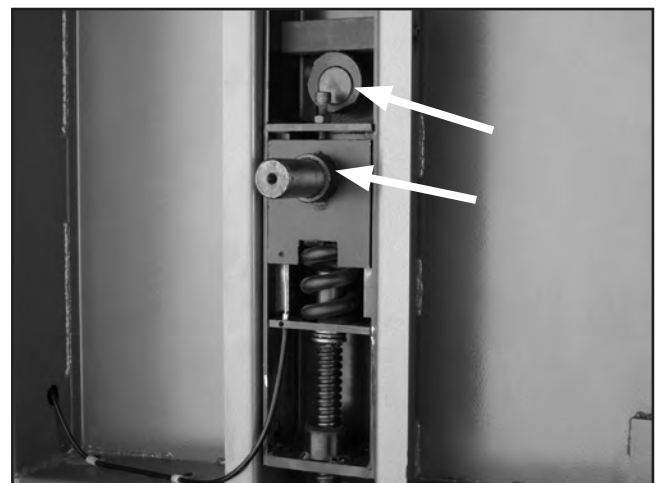

Figure 71. Tension adjustment assembly locations (top wheel removed for clarity).
4. Apply a thin coat of grease to the tension adjustment assembly and tension lever cam (see **Figure 71**).